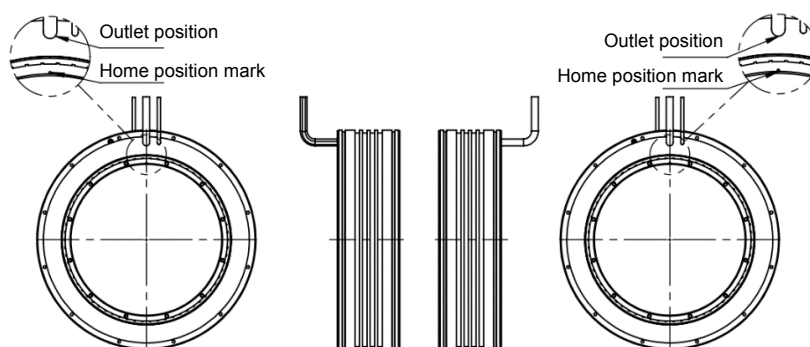

Figure 4.8.1 Relative position of home position mark and outlet position during parallel operation
4. Home position mark on rotor should be aligned with motor cable outlet position (the position error range is $\pm 0.5^\circ$), as Figure 4.8.1 shows. If the motors are operated at rated load but home position mark is not aligned with outlet position, one of the motors in parallel operation may overload and overheat.